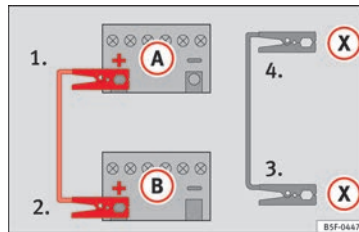

Fig. 78 Diagram of connections for vehicles with Start Stop system
- *For vehicles with Start-Stop system:* connect one end of the **black** jump lead **(X)** to a suitable ground terminal, to a solid piece of metal in the engine block, or to the engine block itself » **Fig. 78**.